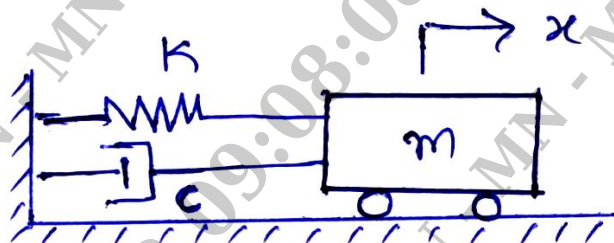

Fig.Q8(b)
b. Find the equation of motion for the system shown in Fig.Q8(b) when $\xi = 2$. If the mass m is displaced by a distance of 3cm and released.